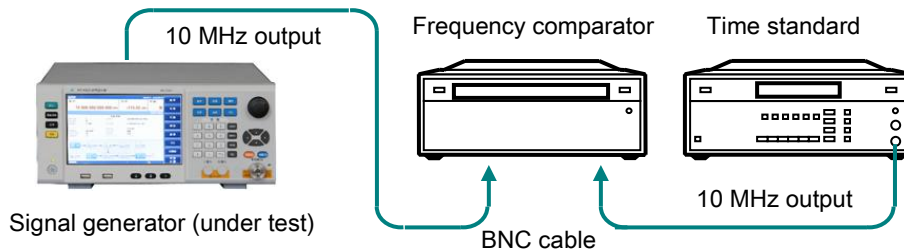

Fig. 8.3 Test on internal time base aging rate
- 1) Connect equipment as shown in Figure 8.3.